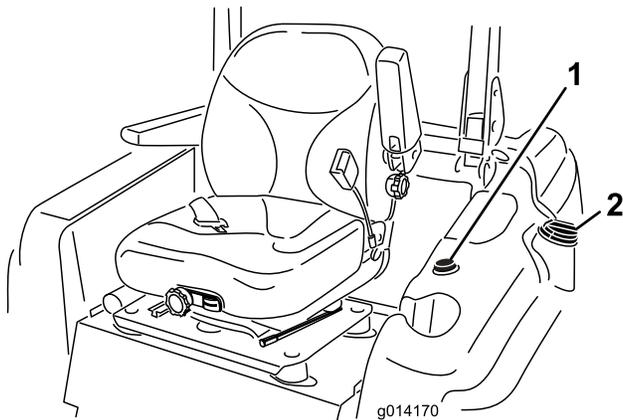

Figure 7
3. Clean around the fuel-tank cap and remove the cap (Figure 7).